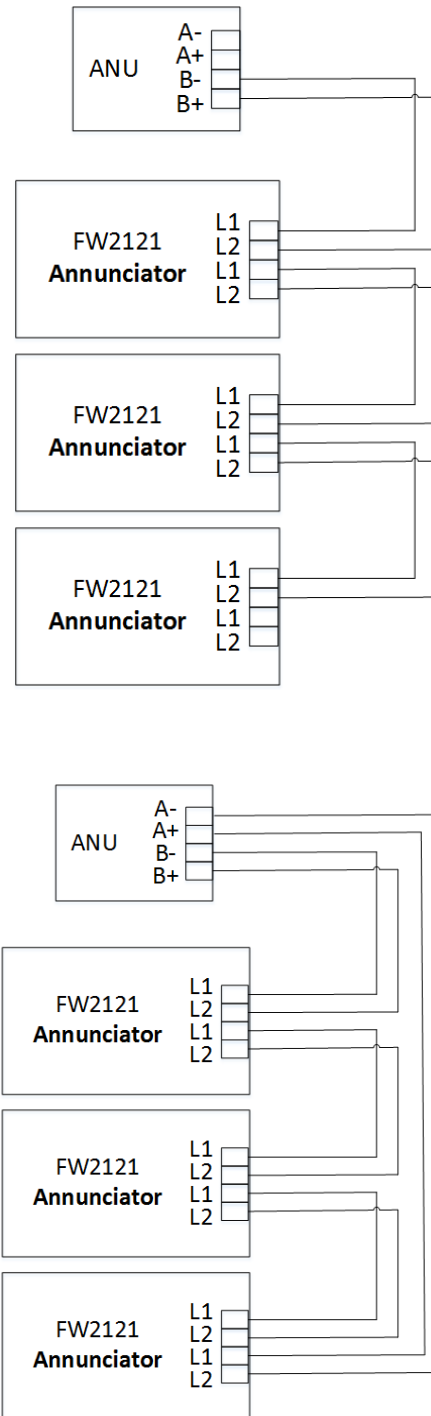

Figure 3. Annunciator Network Unit Wiring
8. Connect the annunciator onto panel's network unit. See Figure 3. Panel's Annunciator Network Unit supports Class A and Class B style and can address up to 32 remote annunciators.